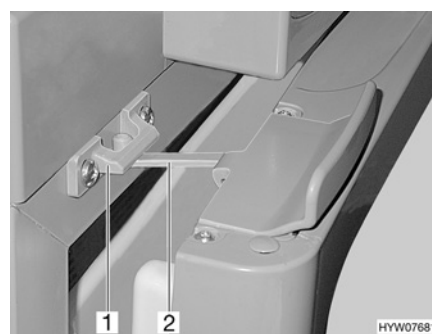

Fig. 99 Refrigerator door in ventilation position (Thetford)
- Open the lock (Fig. 99,2) and snap it into the locking catch (Fig. 99,1). The refrigerator door will then stay slightly open.